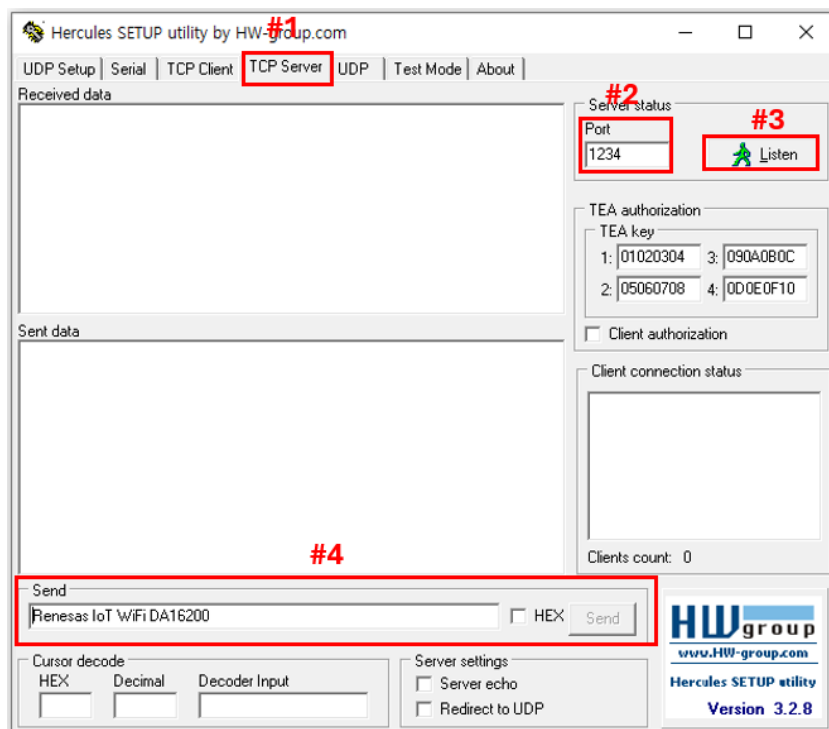

Figure 28: Hercules – TCP Server Socket Setting
- a. Select **TCP Server** (#1, Figure 28).
- b. Enter the port number to be used (#2, Figure 28).
- c. Click **Listen** to start to Listen (#3, Figure 28).
- b. Send data (#4, Figure 28).